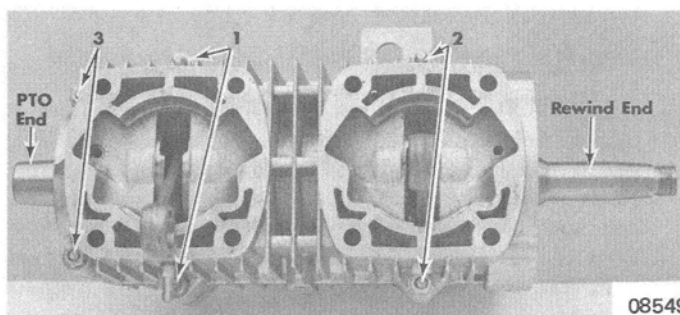

Figure 4. Crankcase Torquing Sequence
13. Torque crankcase attaching nuts in sequence shown in Figure 4. Refer to Section 8, "Specifications", for torque value.